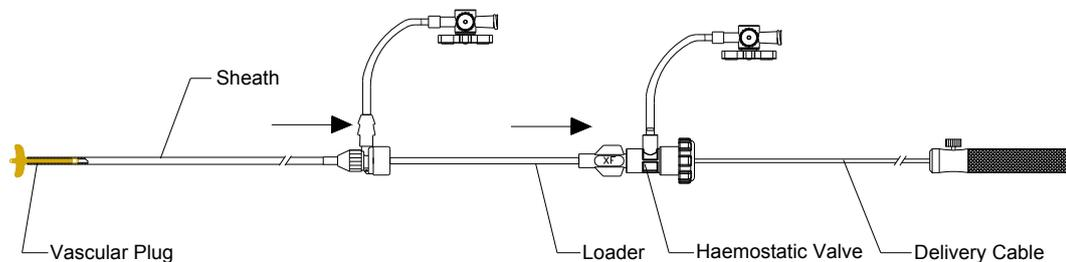
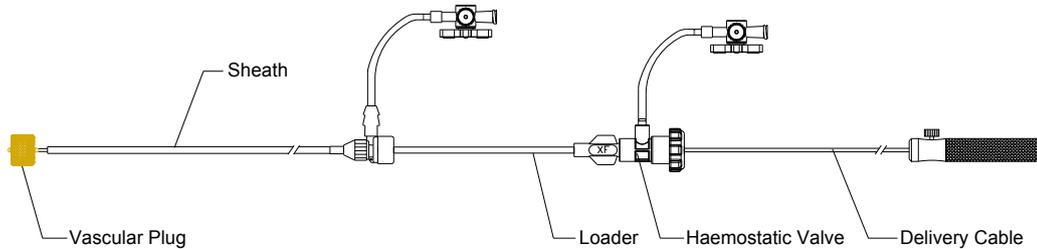

Figure 14 Hold the Delivery Cable and withdraw the sheath
Figure 15 The plug is entirely out of the sheath
- Loosen the Haemostatic valve, and then push the Delivery Cable to advance the Plug until the Plug reaches the distal of the sheath (As **Figure 13**). Then hold the Delivery Cable and withdraw the sheath until the plug is entirely out of the sheath (As **Figure 14** and **Figure 15**).